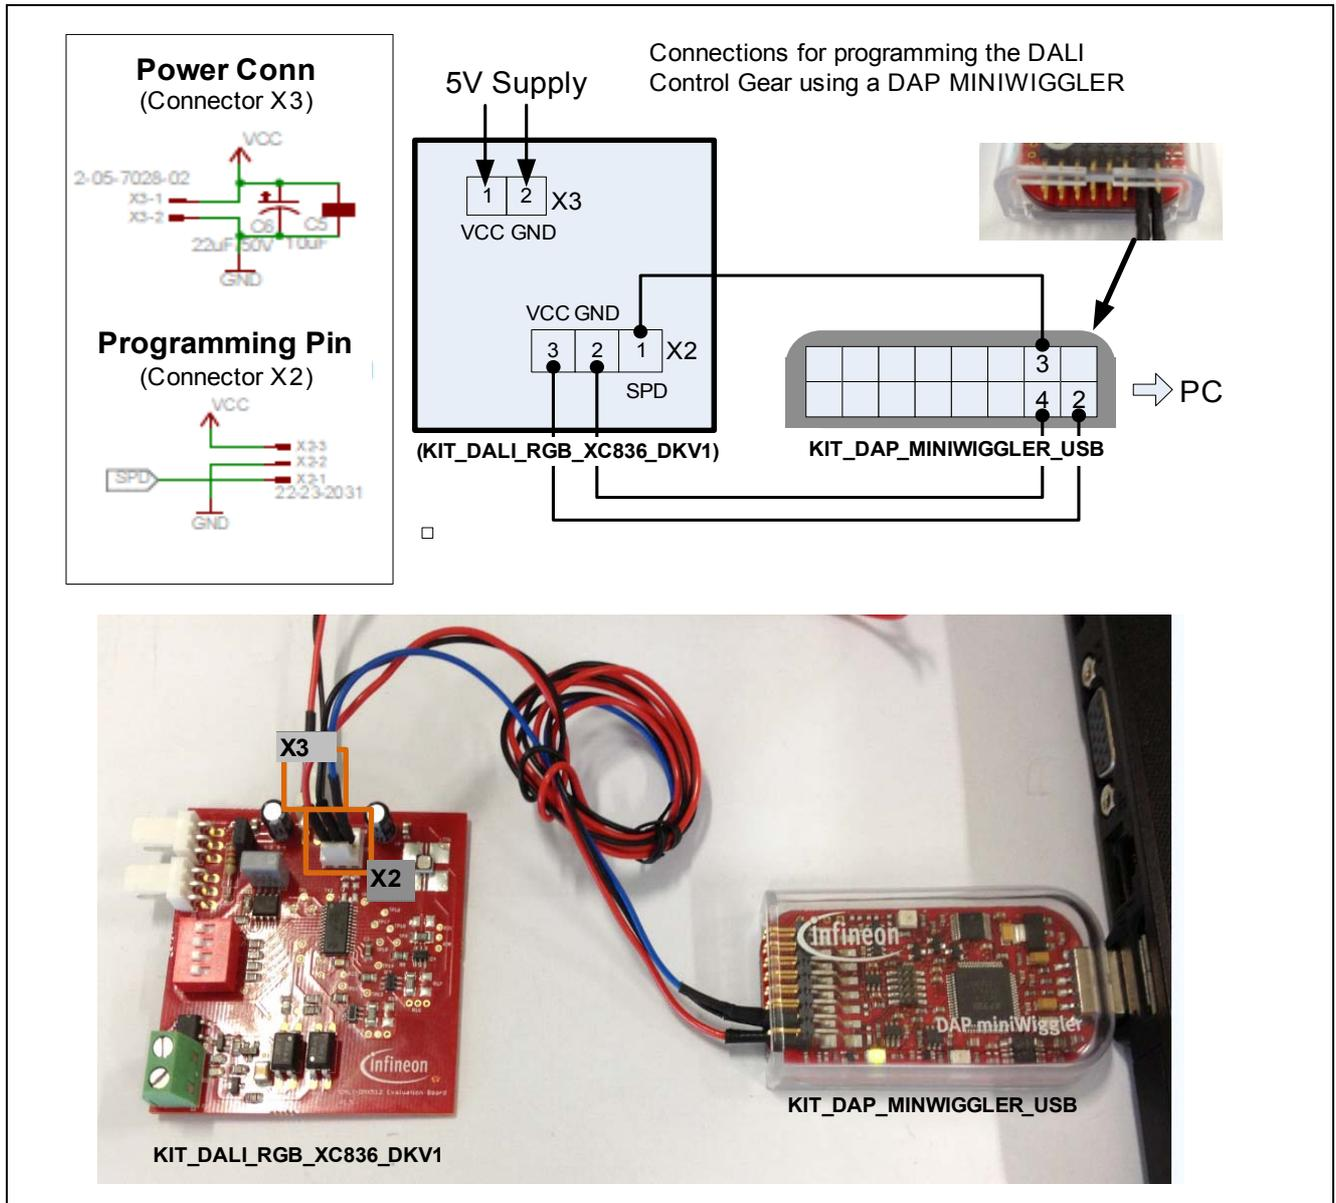

Figure 17 Programming the Control Gear using DAP miniWiggler
- Connect the DAP MiniWiggler to the DALI Control Gear as shown in Figure 17. Download the hexfile (File:AP08102_v1_2_Slave.hex) from Section 2.4 into the DALI Slave Board using XC800 FLOAD in DAVEBENCH™ or KEIL UVision4.